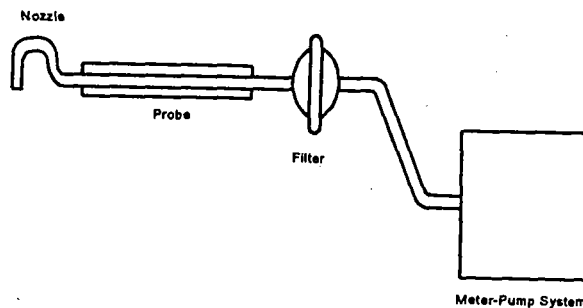

Figure F103-1. Beryllium Screening Method; SampleTrain Schematic.
3. Assemble the sampling train as shown in Figure F103-1.